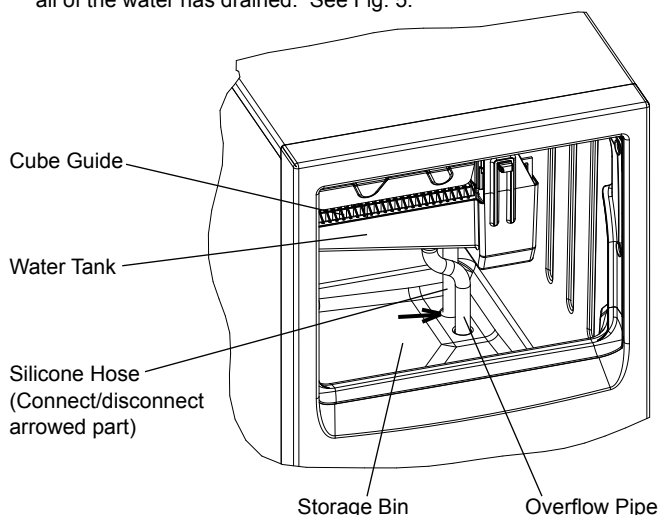

Fig. 5
- 5) Disconnect the Silicone Hose to drain the water from the Water Tank. Reconnect the Silicone Hose back in its correct position after all of the water has drained. See Fig. 5.